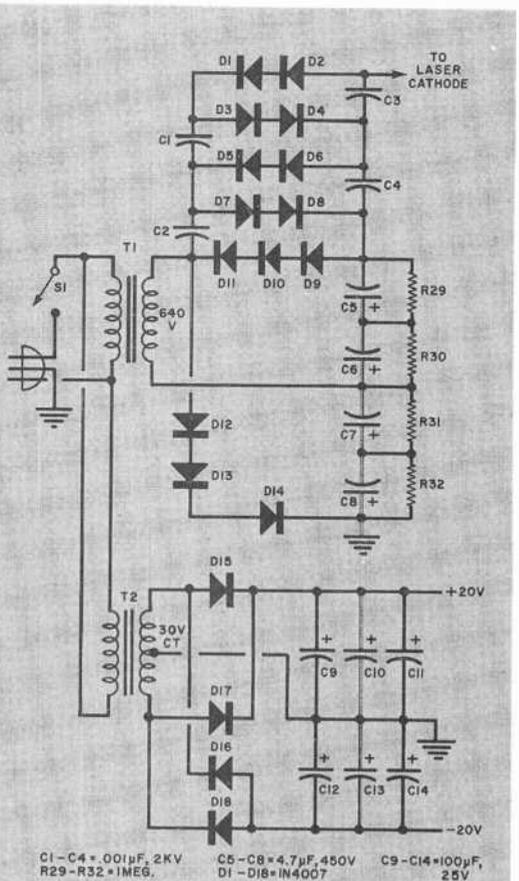

Fig. 2. Half of high-voltage supply "drops out" when laser starts. Low-voltage supply is more conventional.
**Laser/Modulator Circuit.** In the laser/modulator power supply, shown schematically in Fig. 2, *T1*, *C5-C8*, and *D9-D14* are arranged in a voltage doubler configuration that serves as the main high-voltage supply. This supply delivers about 1700 volts to the laser tube. Diodes *D1-D8* and capacitors *C1-C4* form two more voltage doublers that are "stacked" on top of the main high-voltage supply for ionizing the gas in the laser tube. As soon as ionization is complete, current starts to flow through the laser tube. However, the values of *C1-C4* are too low to support the 5-mA tube current. So, the starting voltage collapses and only the main sustaining voltage remains.
**Assembling the System.** Except for the laser tube, jacks  $J1$  and  $J2$ , transformer  $T1$ , and power switch  $S1$ , all components shown in Figs. 2 and 3 mount on a single printed circuit board. The actual-size etching and drilling guide and components placement diagram for the laser/modulator system are shown in Fig. 6. To permit the etching and drilling guide to be reproduced without reduction, it is shown in two parts. The left edge of the lower portion butts against the right edge of the upper portion, with the ground bus (heavy black areas) aligned.
Mount  $T1$  on the floor of the enclosure. Then locate the leads with the shrinkable tubing on them. Route these leads along the component side of the board, and connect and solder them to  $T1$ 's secondary winding, trimming as necessary. Shrink the tubing tightly over the connections. Complete the wiring, referring to Figs. 2, 3, and 6.